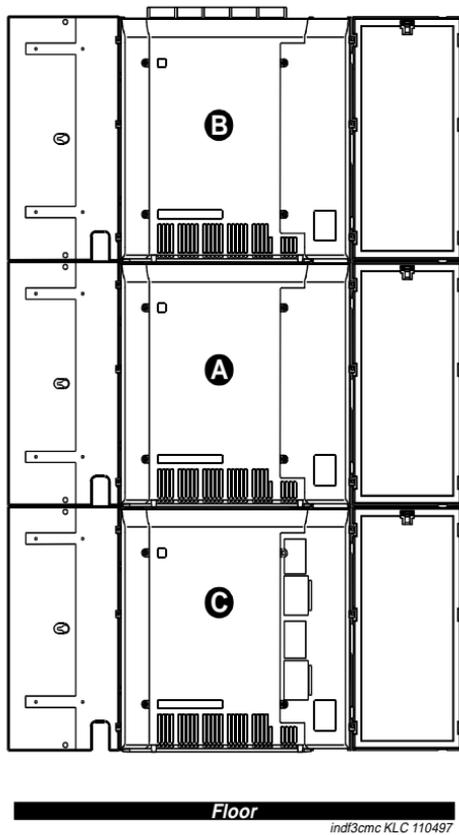

Figure 49. Typical Compact Modular Cabinet (csi model) Vertical Installation (Front)
Up to three Compact Modular Cabinets can be combined in a single installation. Port and service circuit packs fill all ten slots in the second and third cabinets. In a vertical lineup, the processor cabinet (A) installs in the middle position, the second cabinet (B) installs on the top, and the third cabinet (C) installs on the bottom. Cabinet A must have the processor pack in slot 1 and the tone clock in slot 2. Cabinets B and C can have any packs in slots 1 and 2. See Figure 49.